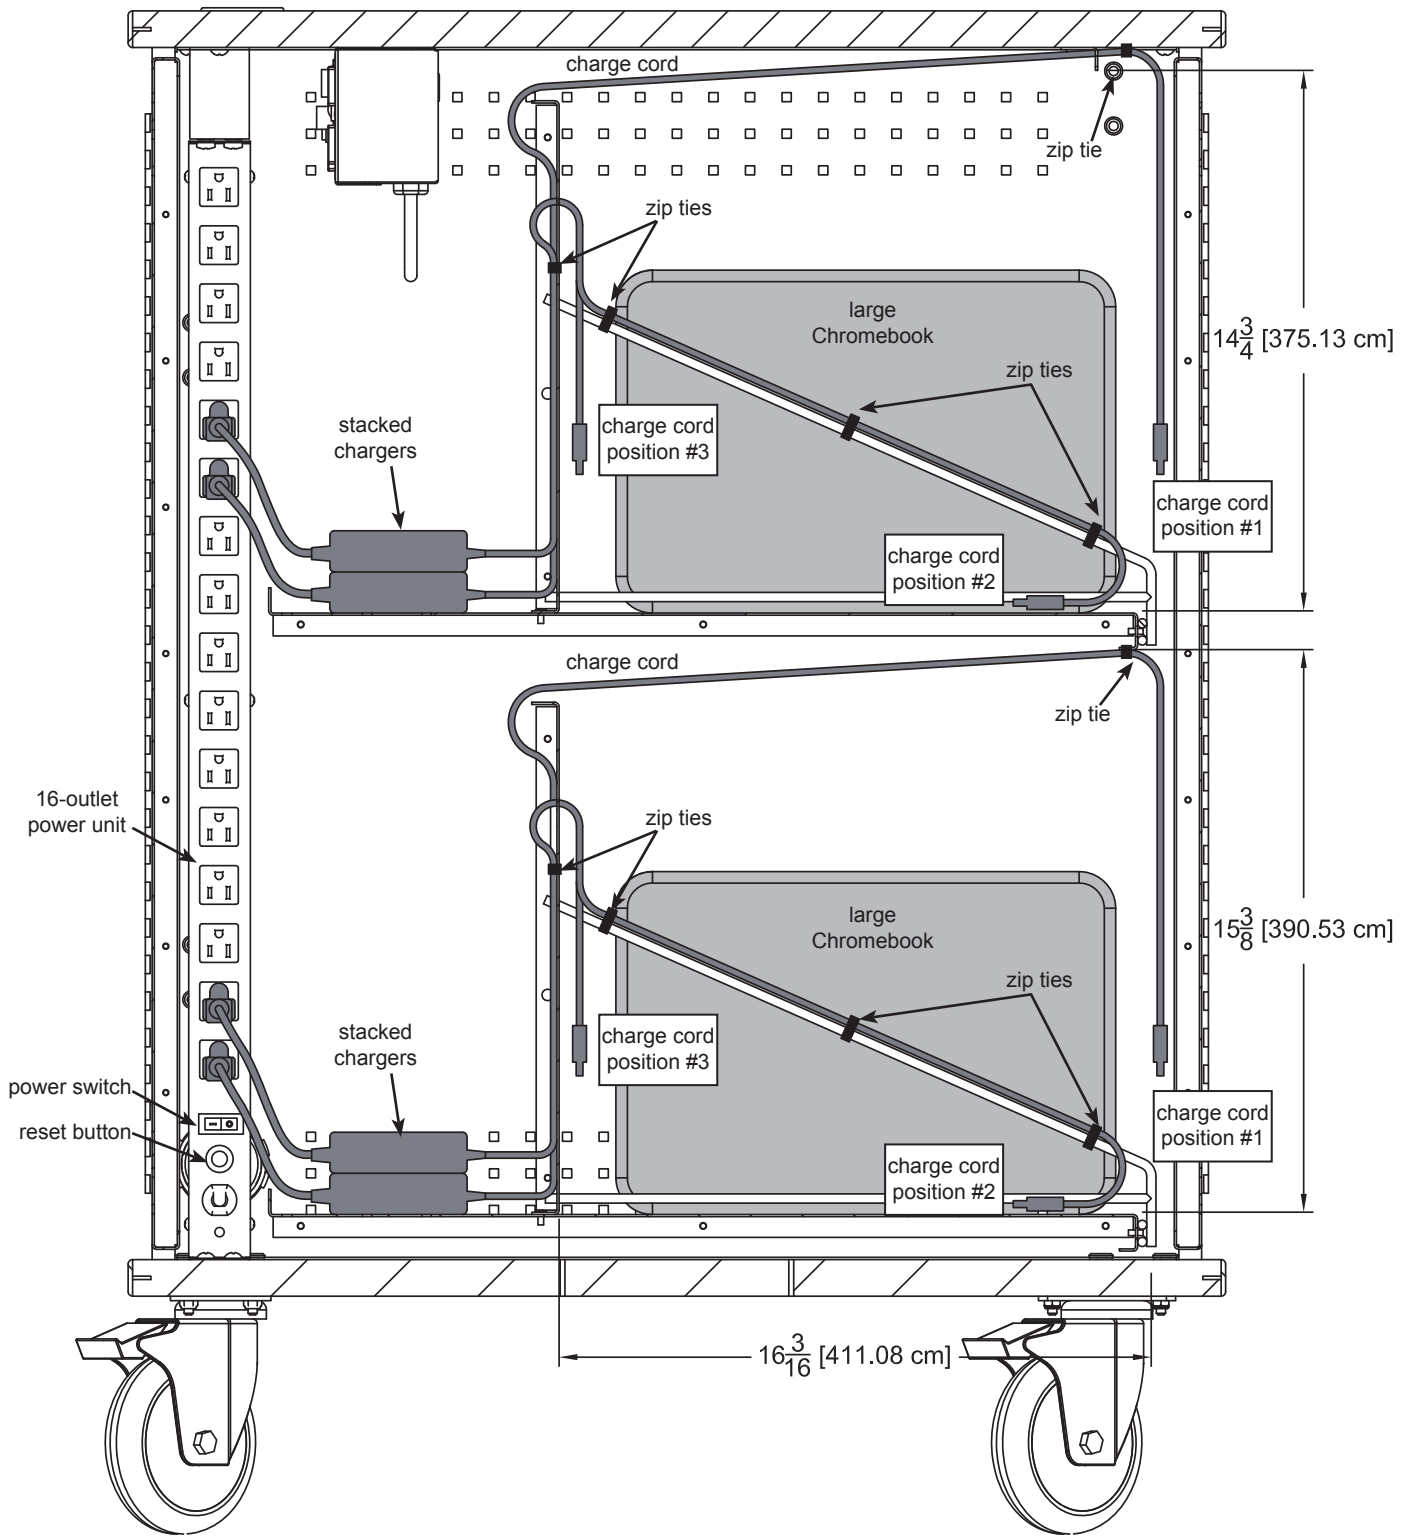

Figure 5
3. Charge cords can be routed to the Chromebooks several different ways depending where the charge jacks are located on your Chromebooks. **Figure 5.** Cords can be anchored with the included zip ties as shown.